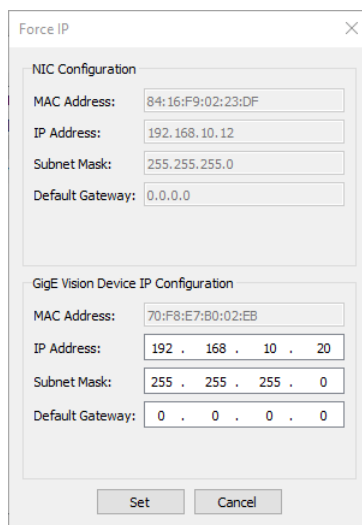

Figure 2.10: PFViewer Device Selection Procedure displaying Force IP
- Configure a valid IP address for the selected camera which belongs to the current subnet (see Fig. 2.10). Click on Set button in the Force IP dialog to take over the new IP address.